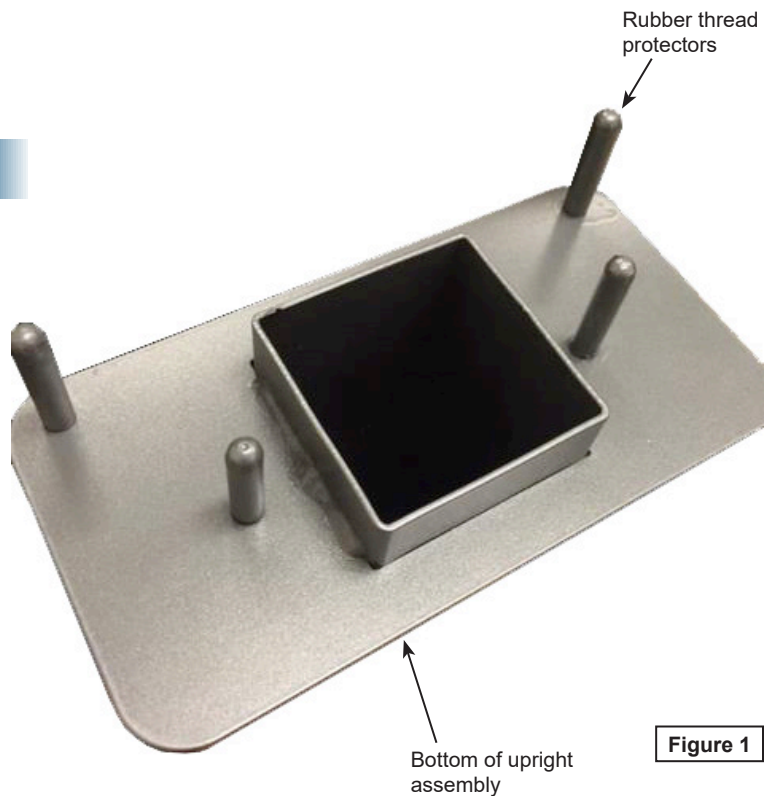

Figure 1
1. With the upright assembly upside-down, remove the rubber thread protector from each threaded stud. **Figure 1.** (A utility knife may be needed to cut off.)